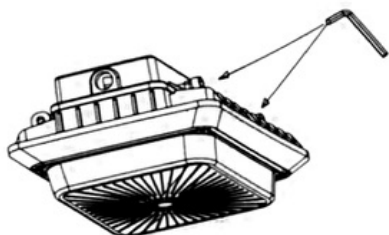

Figure 1-1
1. Disassemble the driver box cover by loosen the two screws on the driver box; Figure 1-1